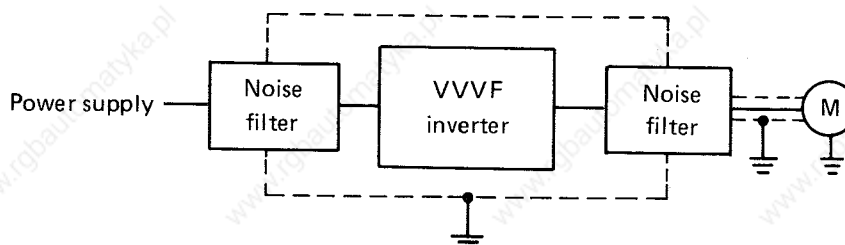

Fig. 11.3
- (c) Connect the noise filter to the I/O terminals of inverter, and place the inverter and cables in ground pipe. Minimize the length of grounding wire and completely ground. (Fig. 11.3)